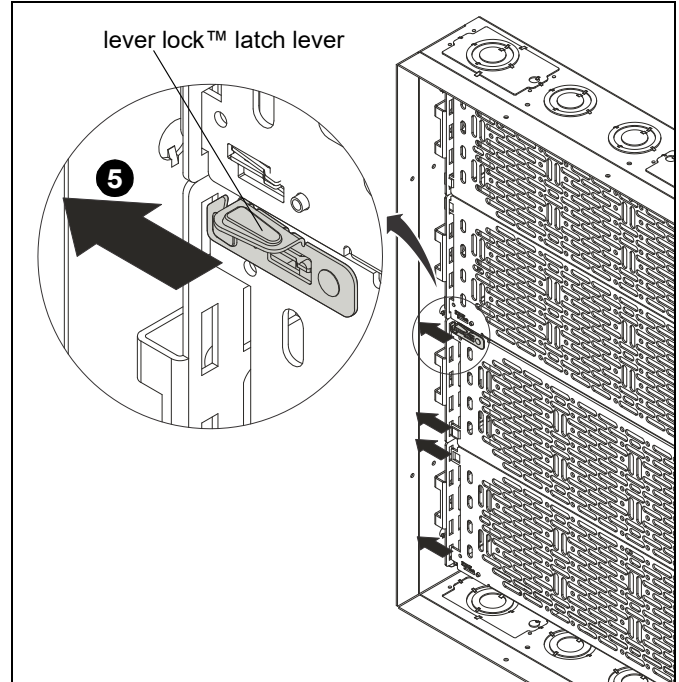

Figure 12
5. Slide LeverLock™ backplanes into adapter slots on opposite side, making sure it "clicks" into place. (See Figure 12)